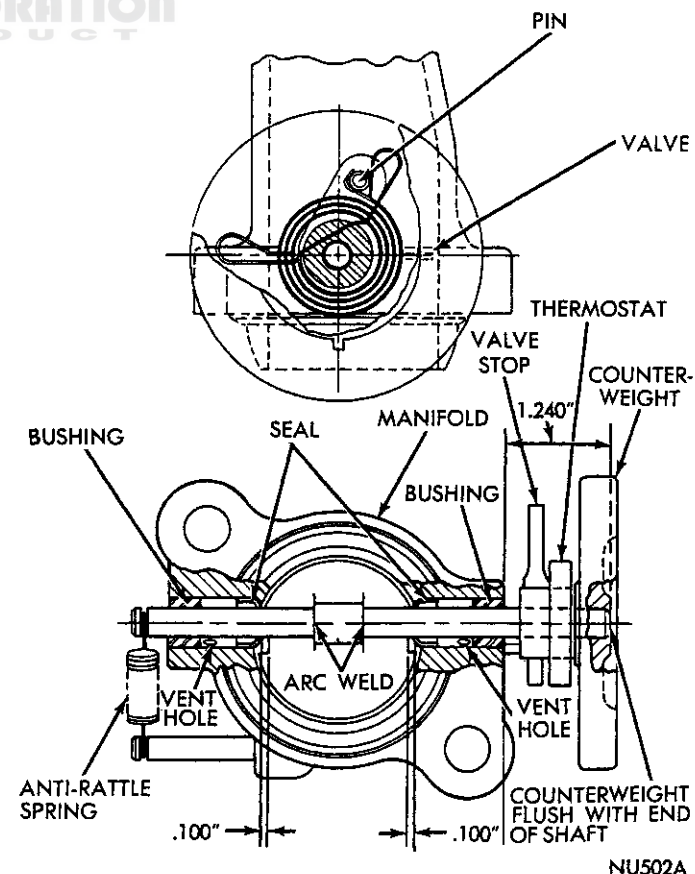

Fig. 13—Proper Manifold Heat Control Valve Installation (318 Cubic Inch Engines)
(1) Remove exhaust pipe from manifold.
(2) Remove exhaust manifold from engine.
(3) Position valve plate, grind off spot welds from valve plate and shaft.
(4) Remove counterweight and shaft assembly, valve plate. Press out bushings and seals from manifold (Fig. 13).
(5) Inspect vent holes and clean out if necessary.
(1) Press in cup seals until seals extend into manifold .100 inch on each side with cupped ends facing outward (Fig. 13).
(2) Press in bushings flush with outer edge of exhaust manifold.
(3) Line ream bushings and seals, .3095 to .3110 inch diameter. Test for free operation of shaft in bushings and seals.
(4) Mark one end of shaft with a suitable dye at 1.240 inches, press counterweight on marked end of shaft until flush with end of shaft.
(5) Position thermostat so center end or tab is pointing **left** and hook or outer end points **down**, install thermostat on counterweight.
(6) Install valve stop on counterweight so looped ends face away from thermostatic spring hook end.
(7) Holding thermostatic spring wrapped 140 degrees in a **counterclockwise** direction viewed from counterweight end, install shaft assembly through outer bushing, seal and valve plate with center strap
(8) With counterweight end of shaft positioned 1.240 inches (previously identified) away from manifold, valve plate centered between seals and valve plate closed (Fig. 13).
(9) Arc weld valve plate to shaft with stainless steel rod. **Arc welding ground must be made at counterweight.**
(10) Test for free operation. Install anti-rattle spring.
(11) Position new gasket on studs, install exhaust manifold and tighten to 20 foot-pounds.
(12) Install exhaust pipe to manifold (no gasket used) and tighten to 24 foot-pounds.